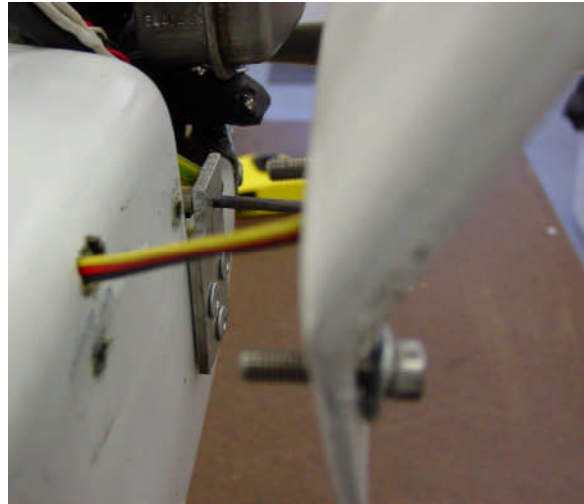

Figure 7. Tail pylon & servo lead
- Carefully move the tail boom assembly a few inches out and back from the fuselage to expose the servo wires where they exit the fuselage (see Figure 7).